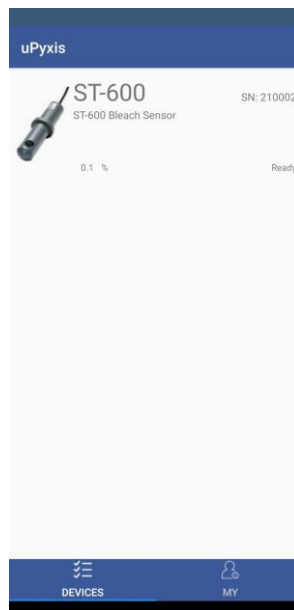

Figure 7.
3. If the connection is successful, the ST-600 Series and its Serial Number (SN) will be displayed (Figure 7).